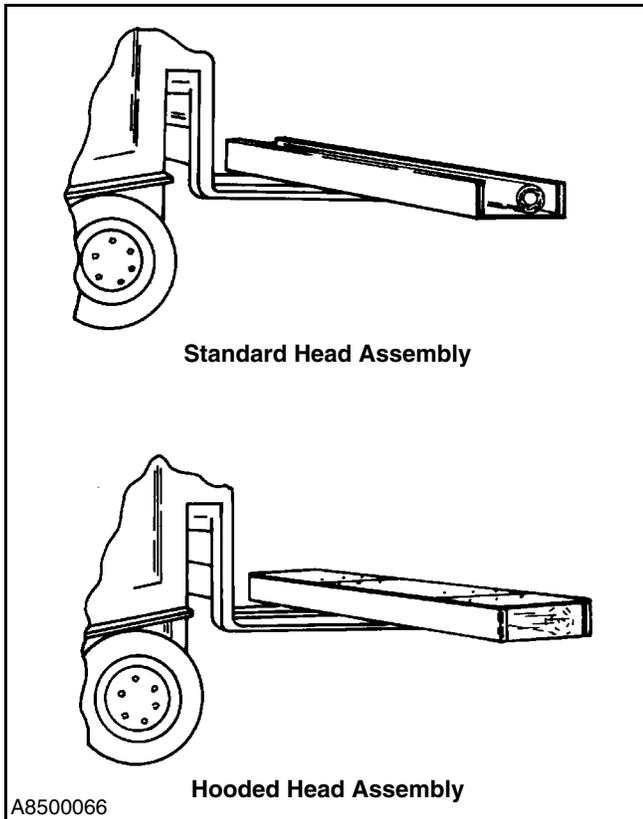

Figure 14
2. Remove the head assembly from the crate. (See Figure 14.)
NOTE: If the head assembly contains a hood, remove the side cover from both ends of the head. Save all hardware for later use. (See Figure 14.)